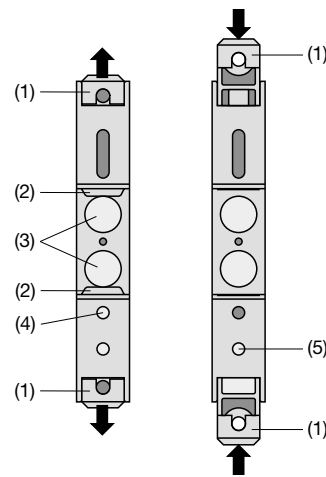

Fig. 5. Rear of device.
While pressing the latch (4) in the base of the device (Fig. 5, left) pull out the isolating amplifier securing brackets (1). To return the brackets to their original positions, the latch (5) in the base of the vice has to be depressed before applying pressure to the securing brackets (1) (see Fig. 5, right).